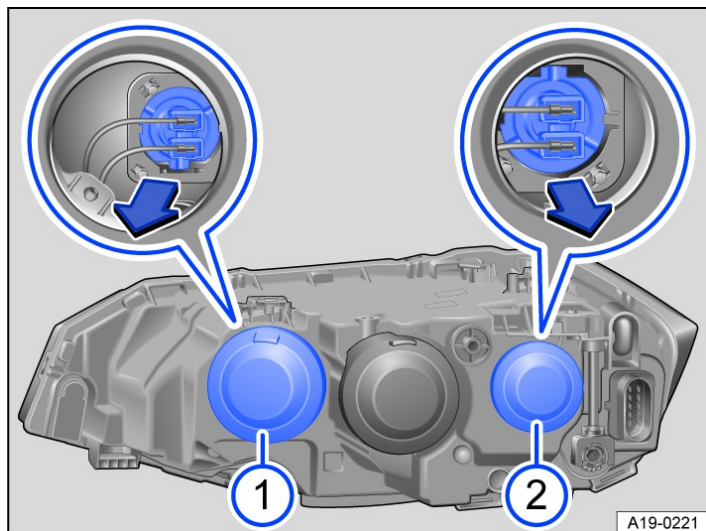

Fig. 1 In the engine compartment: rear view of right-hand headlight.
The illustration → Fig. 1 shows the right-hand headlight. The left-hand headlight is a mirror image of the one shown.
2. Pull the rubber cover → Fig. 1 ① from the rear of the headlight.